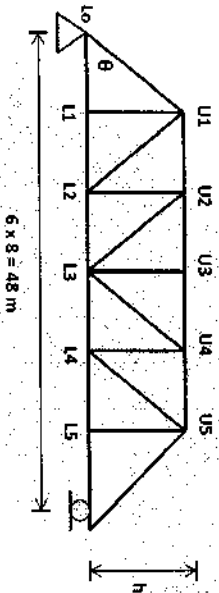

Figure 4
- B) Draw the influence line diagram for the forces in the members L_0U_1 , U_1U_2 , U_2U_3 , L_0L_1 , L_1L_2 , L_2L_3 , U_1L_1 , U_2L_2 , U_3L_3 & U_1L_2 of the Through type symmetric truss as shown in figure 4. Determine maximum forces in these members when unit load traverses the span of 48 m.